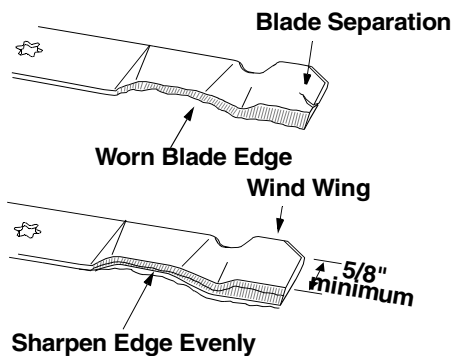

Figure 20
- To properly sharpen the cutting blades, remove equal amounts of metal from both ends of the blades along the cutting edges, parallel to the trailing edge, at a 25° to 30° angle. See Figure 20.
IMPORTANT: If the cutting edge of the blade has already been sharpened to within 5/8" of the wind wing radius, or if any metal separation is present, replace the blades. See Figure 20.